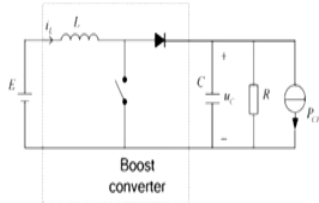
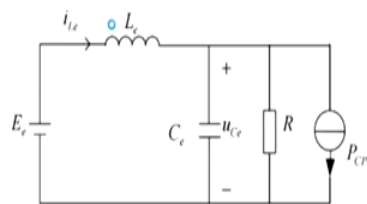

Fig.2 The simplified model of a dc microgrid which supports bus voltage by boost converter
Fig.3 The equivalent model of a dc microgrid
- The simplified model of the DC microgrid is shown Fig.2, in which the distributed power source is connected to the DC bus voltage by the boost converter.
- The circuit equation in Fig.3 is written
So, what happened we know that actual it has a two switches when switch is closed and when switch is open and this topology are simplified DC microgrid is shown in the figure 2 with distributed power source is connected to the DC bus voltage by the boost converter. And the circuit equation is shown in the figure 3. And this is the equivalent circuit model of the DC microgrid when switch is off that means this switch is off and it does not when this voltage and
- The system of Fig. 3 can described by the following equations: